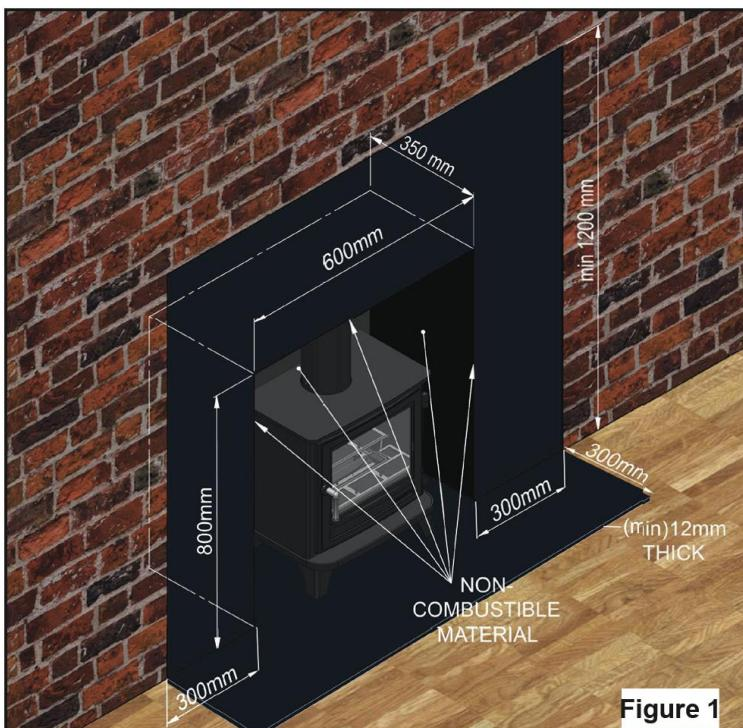

Figure 1
- The minimum chamber dimensions are 600mm wide x 800mm high x 350mm deep (see Figure 1). This is to ensure sufficient free flowing air to prevent excessive heat build-up and damage to the appliance.
- It is recommended that a front hearth is installed with a minimum thickness of 12mm and a minimum depth of 300mm as per Figure 1.